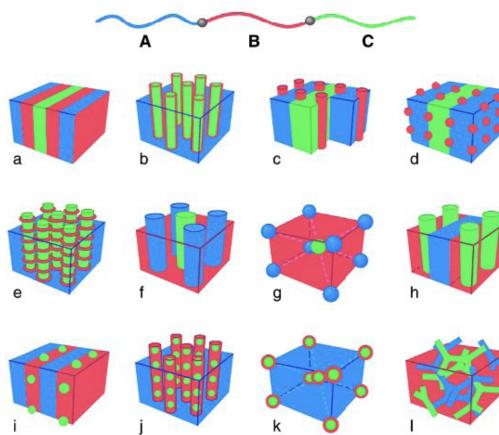

Figure 2.12: Self-assembly of an ABC triblock copolymer.
- If we have something like (a) of Figure 2.12, then we probably have  $N_A = N_B = N_C$  (because everything is nice and equally ordered) and  $\chi_{AC} < \chi_{AB} \approx \chi_{BC}$  (because we have AB and BC interfaces, but not AC interfaces).
- If we can do everything in Figure 2.12 with 3 things, imagine how much we can do with the 20 amino acids!
- **Min-max principle:** Phases are most stable when we (1) minimize interfacial energy and (2) maximize the conformational entropy of the chains.